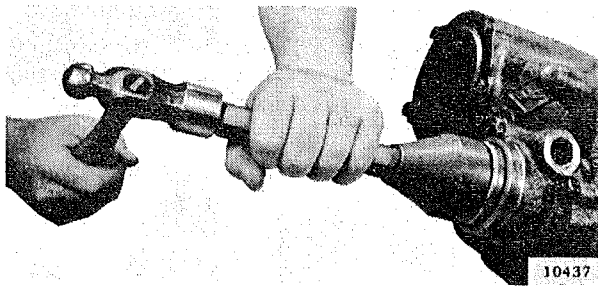

FIG. 121—OUTPUT SHAFT OIL SEAL DRIVER
Do not install the rear cap oil seal (5) until the bearings are correctly adjusted. Install the front and rear oil seals with Oil Seal Driver Tool W-143 (Fig. 121).